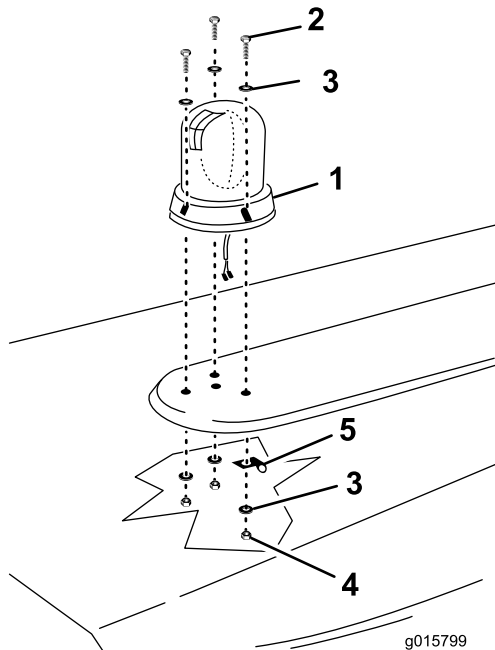

Figure 3
12. Secure the beacon to the engine cover using the fasteners supplied. Ensure the “P” clip is fixed around the loom and to one of the securing screws (Figure 3).